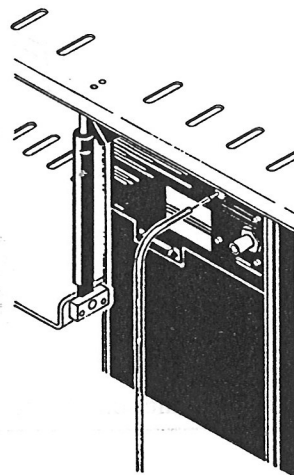

Figure 2-10
3. Slide the tube's free end onto the barbed connector marked "Connect to Distal Sensing Tee" on the control module's rear panel. (See figure 2-10.)